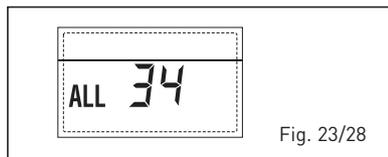

Fig. 23/28
**- ANOMALIE COMMUNICATION CARTE RS-485 ET CARTE RS-485 "ALL 35" (fig. 23/29)**